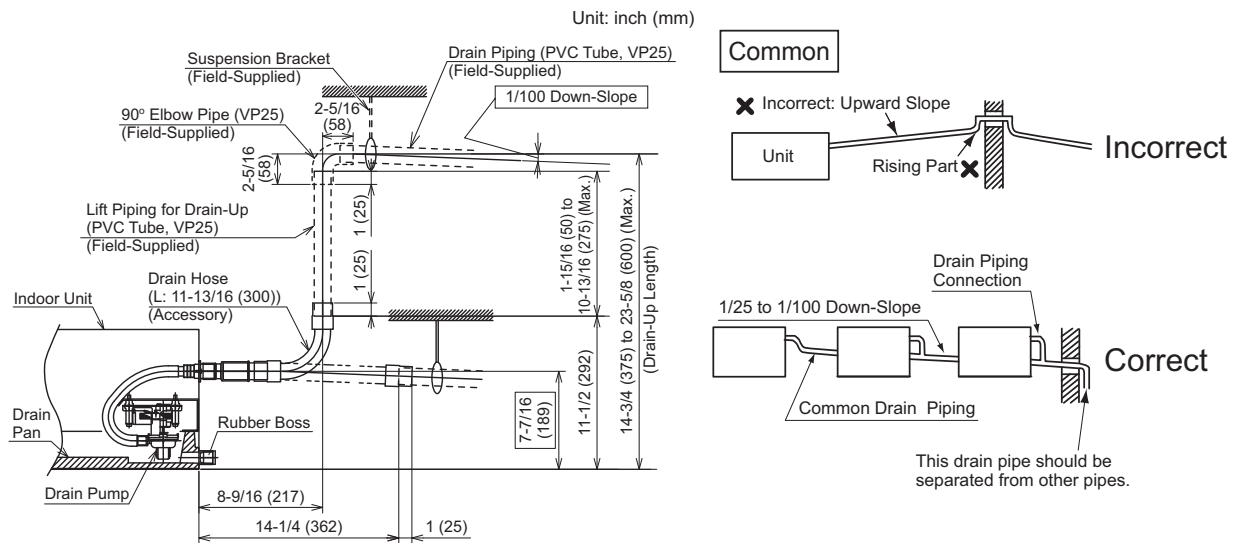

Figure 7.1 Drain Piping
- (1) The position of the drain pipe connection is shown in Figure 7.1.
- (2) Prepare a polyvinyl chloride (PVC) pipe with 1-1/4 inches (32mm) outer diameter.
- (3) Fasten the tube to the drain hose with the adhesive agent and the field-supplied clamp. The drain piping must be performed with a DOWN-SLOPE pitch of 1/100.
- (4) Insulate the drain pipe after connecting the drain hose.